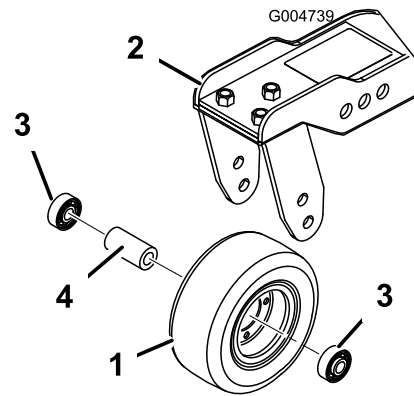
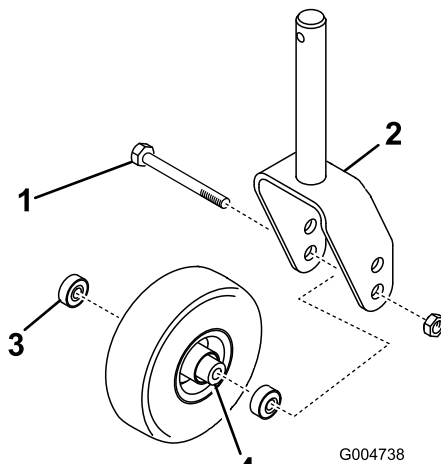

Figure 81
Figure 80
2. Remove the bearing from the wheel hub and allow the bearing spacer to fall out (Figure 80 and Figure 81).
1. Remove the locknut from the bolt holding the caster-wheel assembly between the caster fork (Figure 80) or the caster-pivot arm (Figure 81).